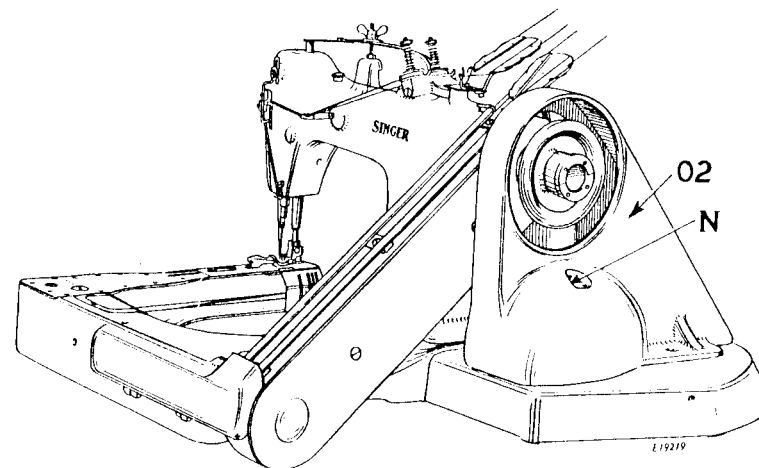
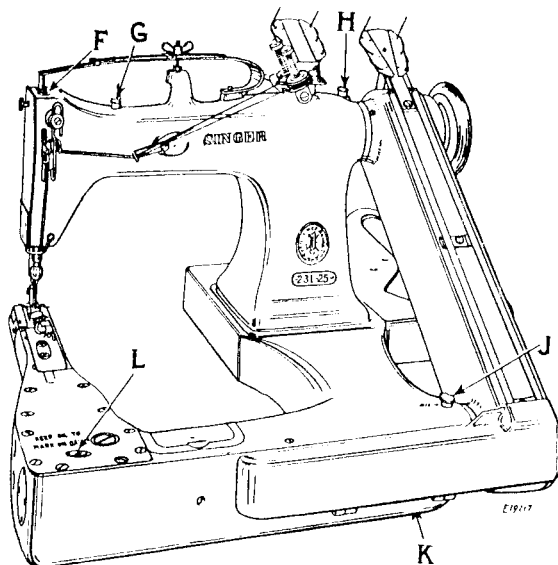

Fig. 3
Fig. 4
Belt Guard 139398, **02**, **Fig. 3**, may be used either with a parallel set-up, or with an oblique set-up using an idler pulley.
1. After the machine has been set up so that its cylinder arm cover is level, lift out the gauge **L**, **Fig. 4** and fill the arm reservoir to the level of the mark on the gauge. Run the machine a few minutes, then wipe off the gauge and recheck the oil level. **THIS RESERVOIR SHOULD BE FILLED ABOUT TWICE A WEEK OR OFTEN ENOUGH TO KEEP THE OIL LEVEL UP TO THE MARK ON THE GAUGE.**
3. Place about 5 drops of oil in each of the three cups **J**, **H** and **G**, **Fig. 4** which lubricate the ball bearings, and in the cup **N**, **Figs. 3 and 6** on the idler pulley underneath the machine pulley. **DO THIS ABOUT ONCE A WEEK.**
NOTICE: When the machine is first set up, or after it has been idle for some time, put a few drops of oil in the top of the needle bar guide pin **F**, **Fig. 4** before starting the machine.
Oil which accumulates in the front of the bed under the rotary shaft should be drained out occasionally by removing the screw plug at **K**, **Fig. 4** in the bottom of the arm, to prevent oil from getting on the looper thread take-up.